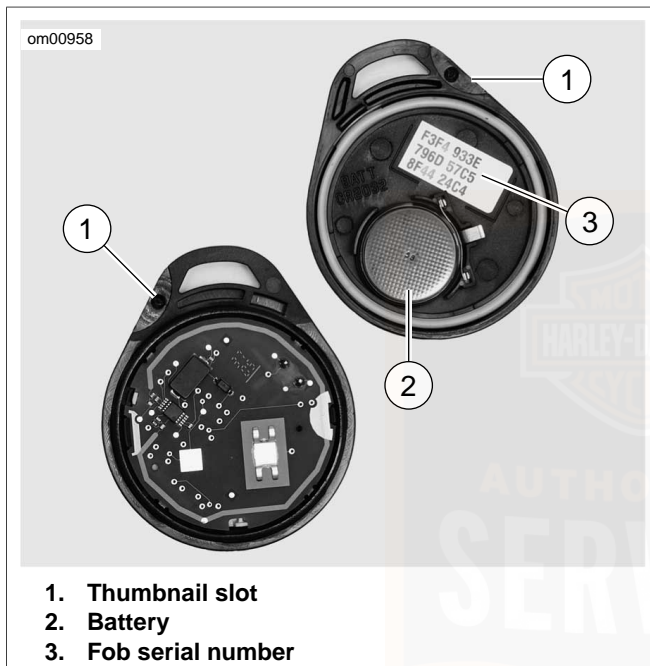

Figure 18. Hands-Free Fob Battery
1. See Figure 18. Slowly turn a thin blade in the thumbnail slot (1) on the side of the fob to separate the two halves.
2. Remove the battery (2) and discard.